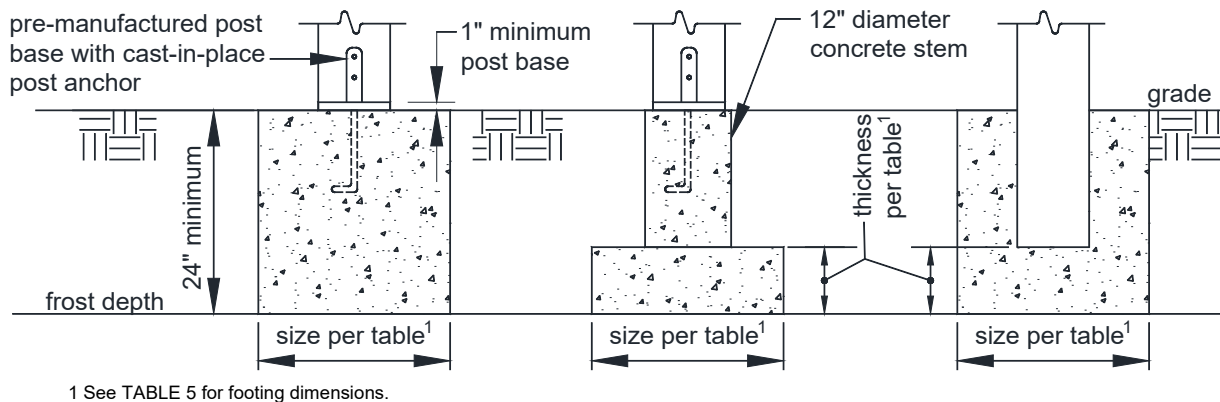

FIGURE 17: FOOTINGS
- Post attachment requirements shall be in accordance with FIGURE 17.